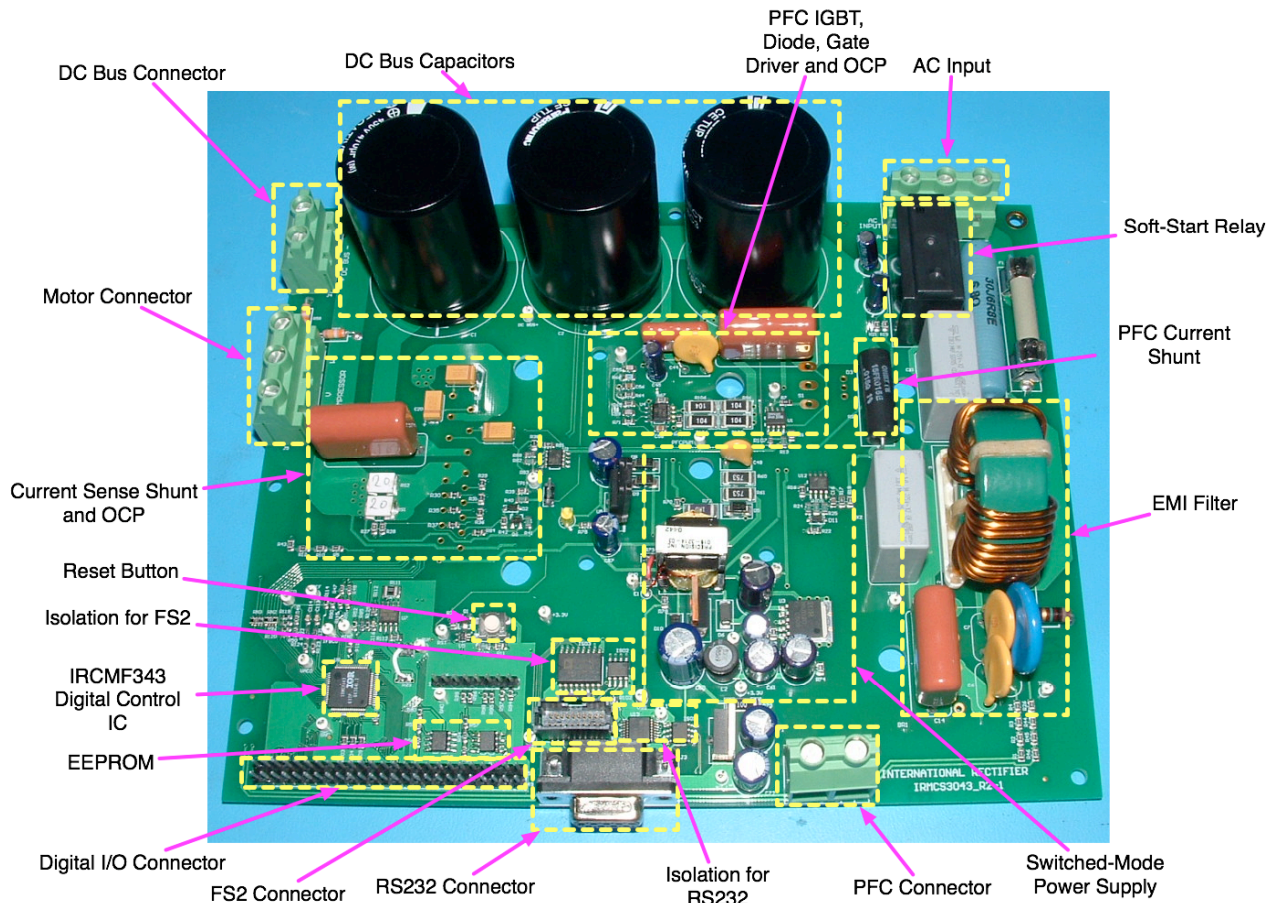

Figure 2. Top View of IRMCS3043
- Figure 2. Top View of IRMCS3043 7
A top view of IRMCS3043 is shown in Figure 2.
One piece of PFC inductor is provided separately from the PCB, and should be connected to the J2 connector. The inductor shown in Figure 2 is 1.5mH at 15A Idc, with 10Arms current rating. You can use your own inductor for the evaluation and test. The choice of inductor involves trade-offs in PFC control performance (current ripple, harmonics and power factor), switching frequency, cost, space, power loss and EMI noise. The PFC switching frequency for the IRMCS3043 is 30kHz, and the typical recommended reasonable inductance range is about 1mH to 1.5mH.